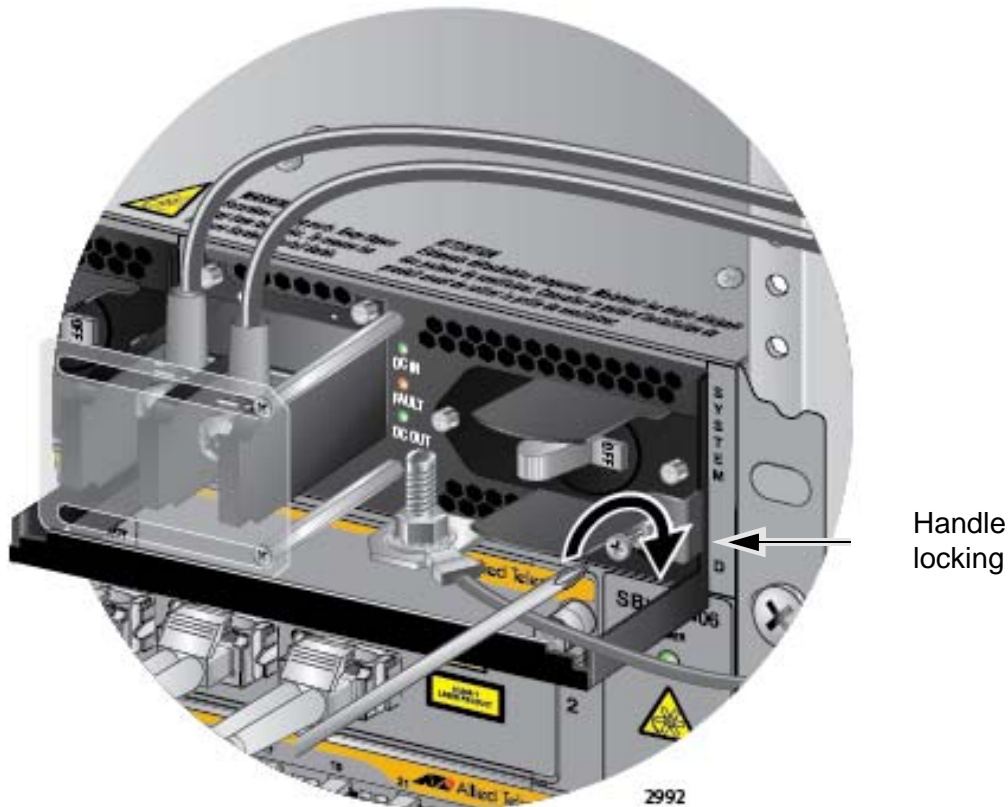

Figure 149. Tightening the Handle Locking Screw
9. With a #2 Phillips-head screwdriver, tighten the handle locking screw to secure the power supply to the chassis. See Figure 149 on page 226.
7. With a #2 Phillips-head screwdriver, tighten the handle locking screw to secure the power supply to the chassis. See Figure 149 on page 226.